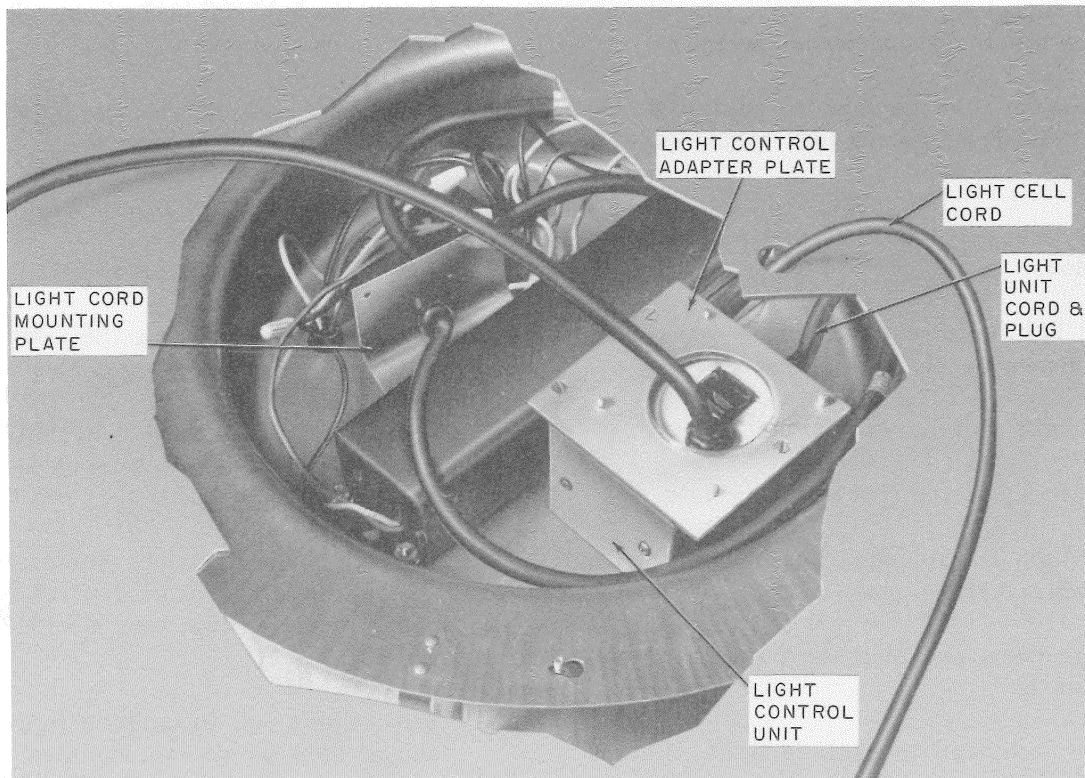

Fig. 13—Position of Light Control in Light Fixture
- (l) Bend light unit cord plate and wedge under ballast (Fig. 13).
- (n) Bend light cord mounting plate and wedge it under ballast (Fig. 13).